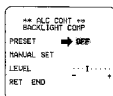

Fig. 51
- Press the Set Switch (11) to proceed to the Backlight compensation menu as shown in Fig. 51.